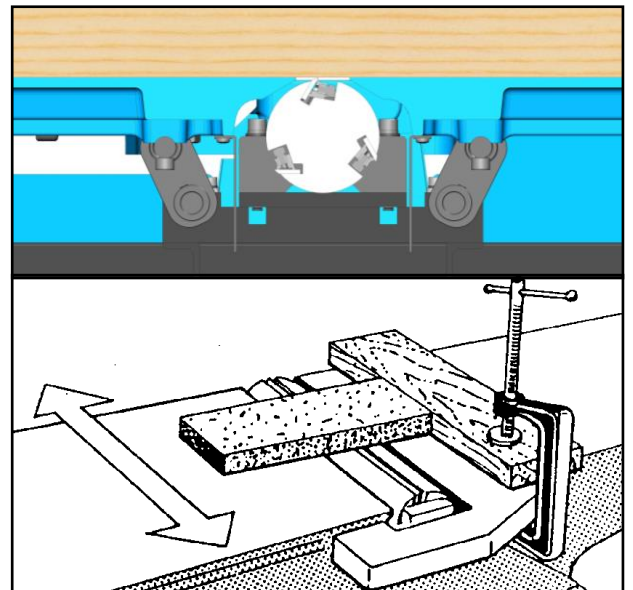

Fig. 25
2. Place a metal straightedge across both tables as shown in Fig.25, and make sure both tables are set to the exact height of the high point of the knives.
3. Clamp a block of wood across the infeed table as shown in Fig. 25 in order to block the end of a fine India stone or oilstone during the jointing operation. This helps to prevent kickback of the stone.